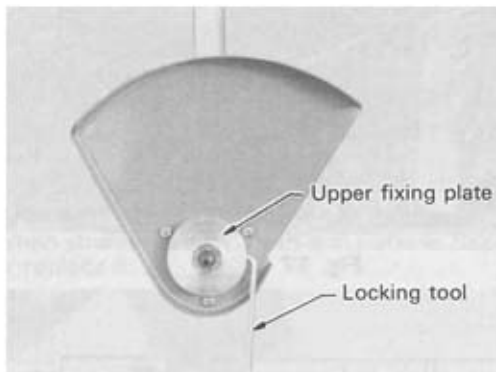

Fig. 12
2. Rotate the drive shaft until the holes in the upper fixing plate and the gear box are aligned. Insert the locking tool. See Fig. 12